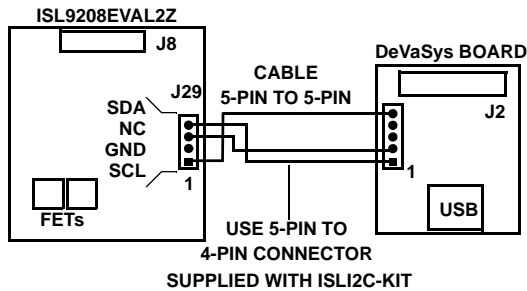

FIGURE 5. I²C CONNECTION TO ISL9208 PCB
- Connect the I²C cable from the interface board to the ISL9208EVAL2Z as in Figure 5. Use the 5-pin to 4-pin cable provided in the ISLI2C-KIT.